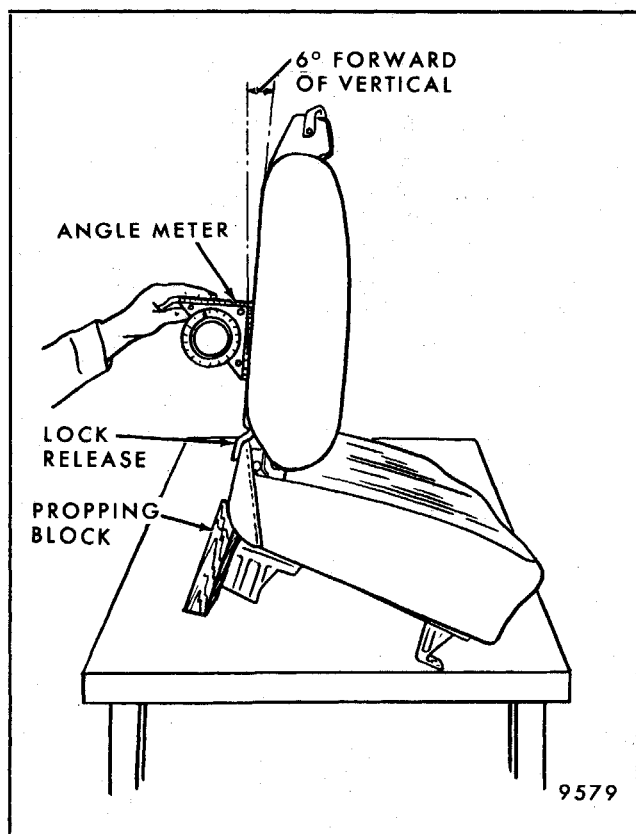

Fig. 9-35 - Front Seat Back Inertia Lock Check - Out of Vehicle
2. Raise rear of seat until seat back is 6 degrees forward of vertical position (Fig. 9-35) and place blocks under rear of seat to hold seat in this position. Use "angle meter" as shown in Fig. 9-35. Angle meter can be purchased at hardware or department store.